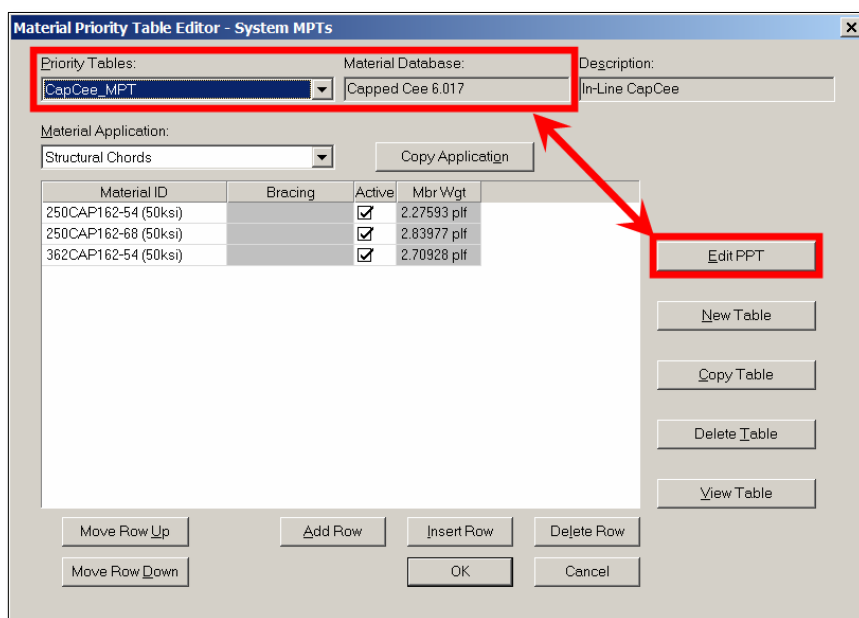

Figure 161: The *Material Priority Table Editor* dialog box for *System MPTs*.
2. From within the *System Presets* dialog box, click on the *Edit MPTs* command button. This will open a *System MPTs Editor* dialog box like the one pictured in Figure 161. Using the *Priority Tables* drop-down list in this dialog box, we need to select an MPT associated with a *Material Database* that contains plates. In this instance, we have selected the CapCee_MPT. This will allow us to modify plate materials in the associated Capped Cee *Material Database*.